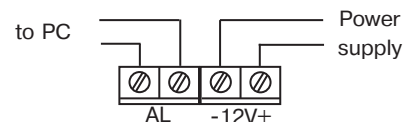

Figure 3
- Mount the wire in accordance with Figure 3.